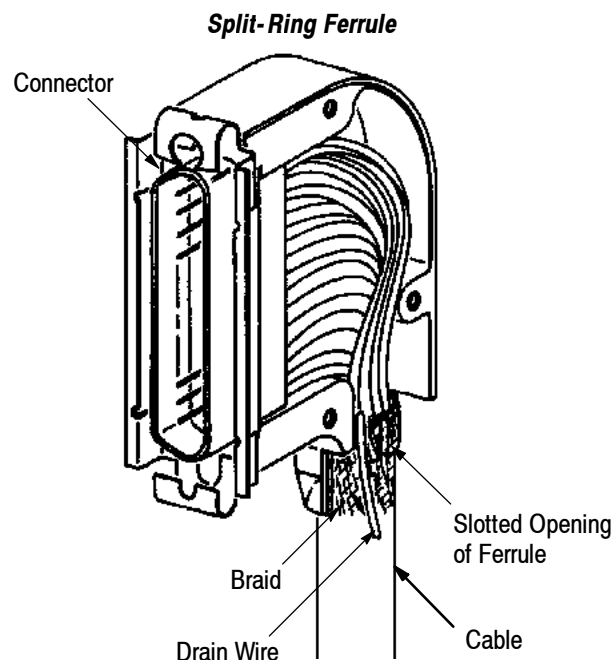

Figure 5
5. Slide the ferrules under the braid to the end of the cable. If using the drain wire, wrap the drain wire around the ferrules, ensuring that it is NOT located in the slotted opening of the ferrules. See Figure 5.
7. Position one half of the cable clamp on the cable and connector. Ensure that the flange of the connector is behind the flange gripper of the clamp and that the ferrule is positioned in the strain-relief grooves of the clamp. See Figure 5.